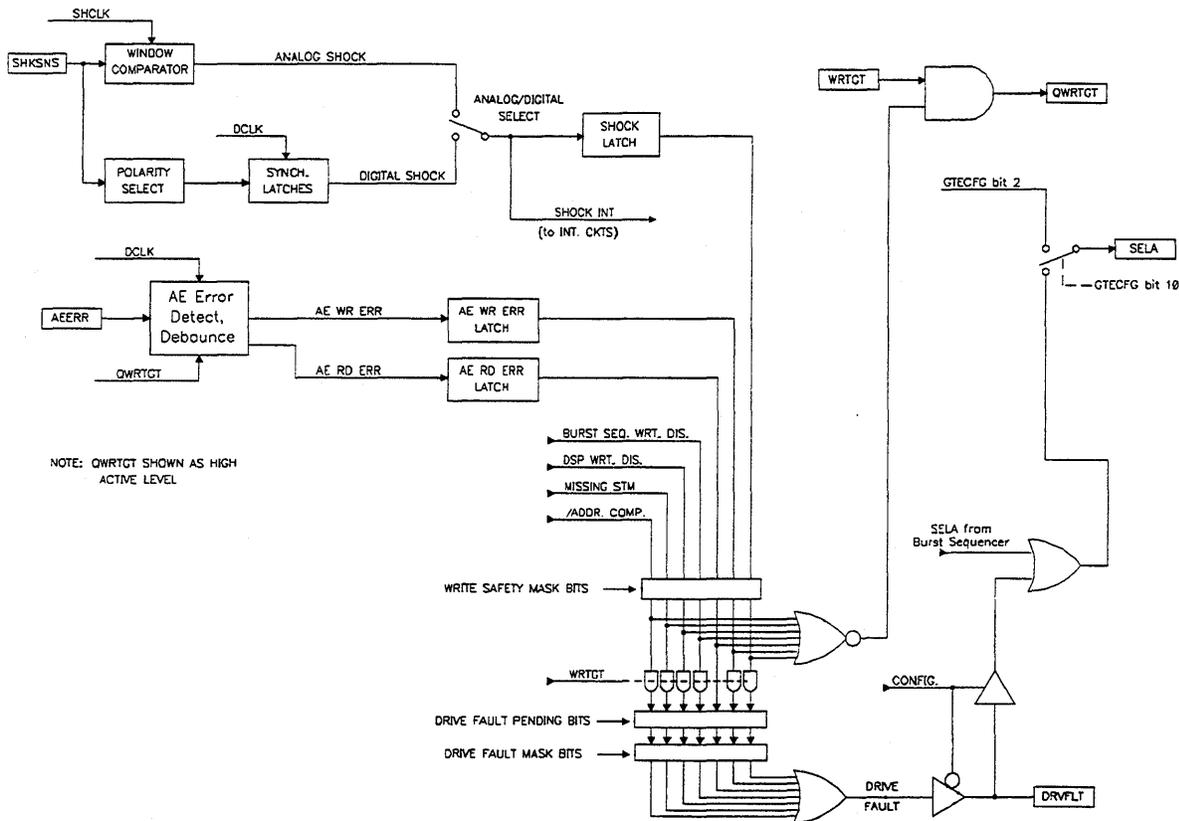

Figure 6-6 Write Gate/Drive Fault Circuits
Circuitry is provided to qualify the write gate from the data path controller before being used by the write circuitry. (see Figure 6-6) The active level of Write Gate and the Qualified Write Gate is selectable in the DFLCFG register. All of the following conditions must be met before a write gate is allowed: The Write Disable bit in the Decoder Control register must be inactive. (This provides a means for the DSP to block the write gate if the “at speed” and “on track” conditions are not met.) The coarse position information from the Gray Code shift register and Index shift register must match the value in their respective Target Register. A write disable signal from the Burst Sequencer must be inactive. The Missing STM Latch must be inactive. The Shock Input Latch must not be active. And the AE WR ERR and AE RD ERR Latches must not be set. Safety Mask bits are provided in (WRGTDF) Write Gate / Drive Fault Register to allow for testing or diagnostics. These will allow the write gate to pass without intervention by the selected safety. Qualified Writer Gate can also be gated by Servo Sector (SSEC) if enabled via the DFLCFG “Servo Sector gates QWRTGT” control bit.
A Drive Fault can be generated on the DRVFLT pin if that pin is configured as an output (see DFLCFG). Its alternate use is as an input to be OR’ed with the Burst Sequencer Signal that controls the SELA output. (See Figure 6-6.)
An input is provided for including the fault monitoring of the (AE) Arm Electronics or Head Interface Electronics. (see Figure 6-6) By default, a fault is reported by the AE by reversing the polarity of the QWRTGT signal and returning it to the AEERR pin. The AE pin is then XORed with the QWRTGT pin, with a result of logic 1 indicating an error. This XOR function can be disabled by setting the AEERR XOR Disable bit in the Drive Fault Configuration Register (DFLCFG). In this mode, an AE error is indicated by a logic one (after the possible inversion with Negative AEERR set in the DFLCFG register) on the AEERR input. This comparison can be blanked for a programmable number of DCLKs whenever QWRTGT makes a transition by setting the AEERR Blank Count in the DFLCFG Register to a non-zero value. If the AEERR pin indicates an error when QWRTGT is in its active level (write) the AE WR ERR Latch is set. If the AEERR pin indicates an error when QWRTGT is at its inactive level (read) the AE RD ERR Latch is set. These latches can be included in the Write Gate Qualification and Drive Fault Circuits.